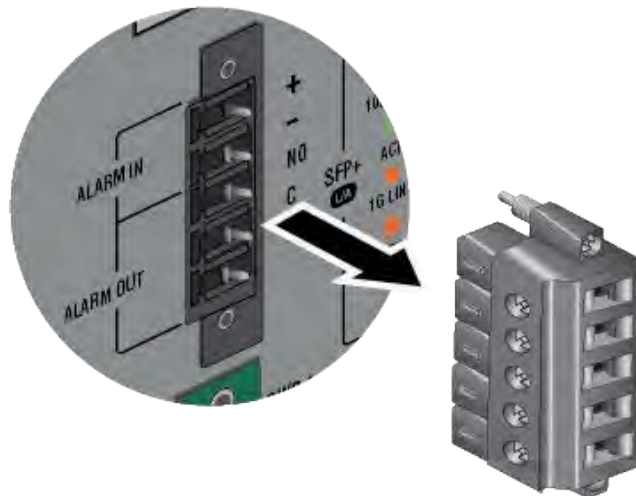

Figure 55. Removing the ALARM IN / ALARM OUT Plug
5. Remove the ALARM IN / ALARM OUT plug. Refer to Figure 55.